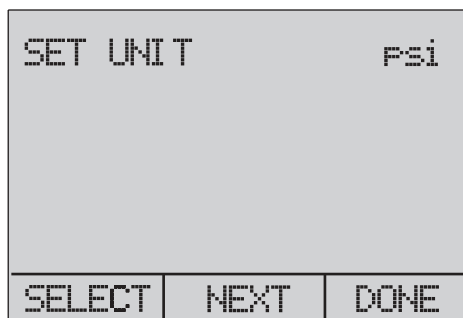

Figure 31. Set Unit Screen
5. Use "SELECT" to scroll through the "UNIT" options, and select "NEXT" to move on. See Figure 31.